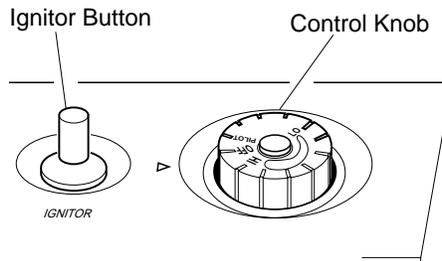

Figure 16 - Control Knob In The OFF Position
4. Wait five (5) minutes to clear out any gas. Then smell for gas, including near the floor. If you smell gas, STOP! Follow "B" in the safety information, column 3, page 11. If you don't smell gas, go to the next step.
5. Turn control knob counterclockwise to the PILOT position. Press in control knob for five (5) seconds (see Figure 16).
**Note:** If pilot goes out, repeat steps 3 through 7. This heater has a safety interlock system. Wait one (1) minute before lighting pilot again.